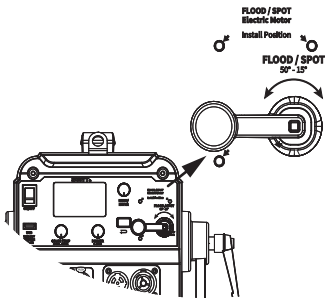

Fig. 8 Control panel (before modification)
1) Use the tool (Allen key) inside the accessory box to remove the focus handle in figure 8;